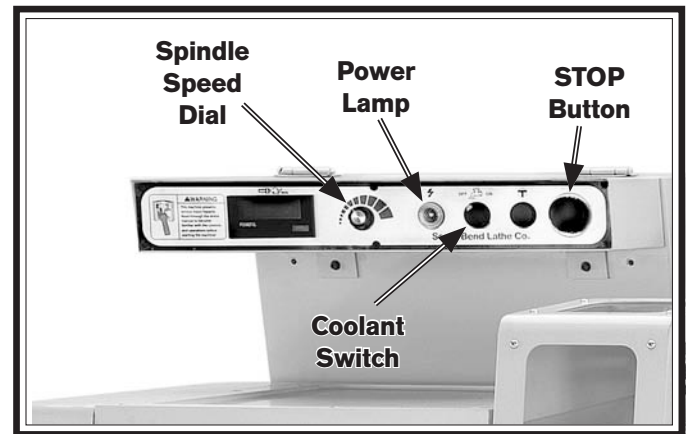

Figure 24. Control panel.
5. Push the STOP button on the control panel (see **Figure 24**), then rotate the spindle speed dial all the way to the left to set the spindle speed at the lowest setting.